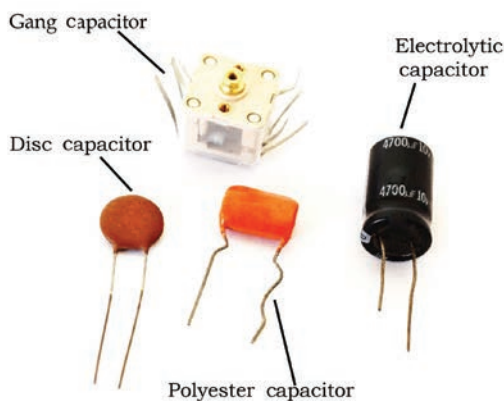

Fig. 2.18 Capacitor
The word 'capacitor' specifies capacity. It represents the capacity to store energy. In a capacitor, energy is stored in the form of electric field. Capacitance is measured in Farad (F). A capacitor has two parallel sections. It is between these sections that energy is stored. It consists of two metallic conducting sections (plates) separated by an insulator (dielectric material) as shown in Fig. 2.18. A metallic conductor can be made of aluminium, copper, etc. A dielectric can be ceramic, mica, electrolyte, air, paper, etc. It stores charges on its metallic plates, which generate the electric field between the plates. Hence, it stores energy in the form of electric field.